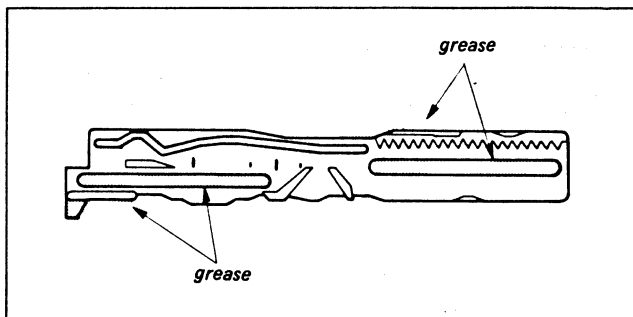

Fig. 3-37.
- 1) Apply grease. (See Fig. 3-37)